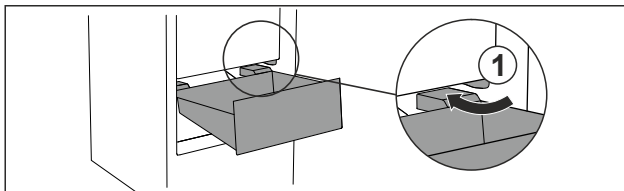

Fig. 98
- Guide drawer in at an angle around the stoppers Fig. 98 (1).